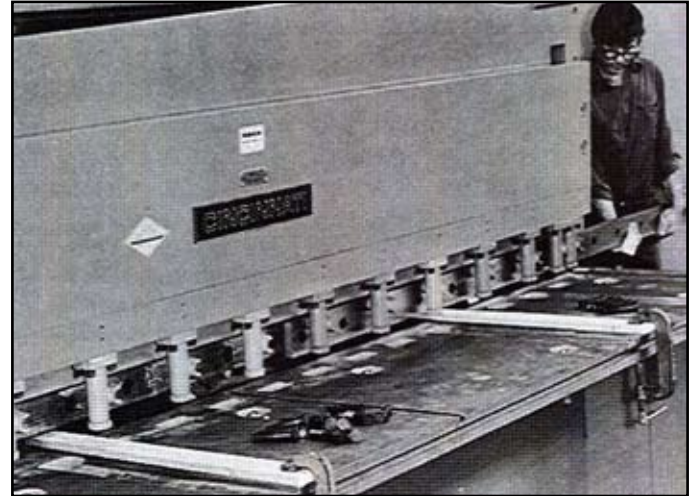

Figure 9-1 - Clamp Wood Strip to Table
9. Clamp wooden strips, such as standard 2" x 4" (51 x 102mm) lumber, on the table and under the upper knife to support it. See Figure 9-1.